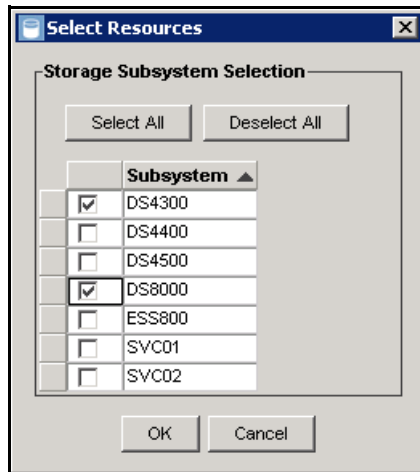

Figure 7-30 Storage subsystem selection
4. Click **Selection** on the Selection tab to select the storage subsystems for which you want to generate the report. In our case, we select **DS4300** and **DS8000**, as shown in Figure 7-30.